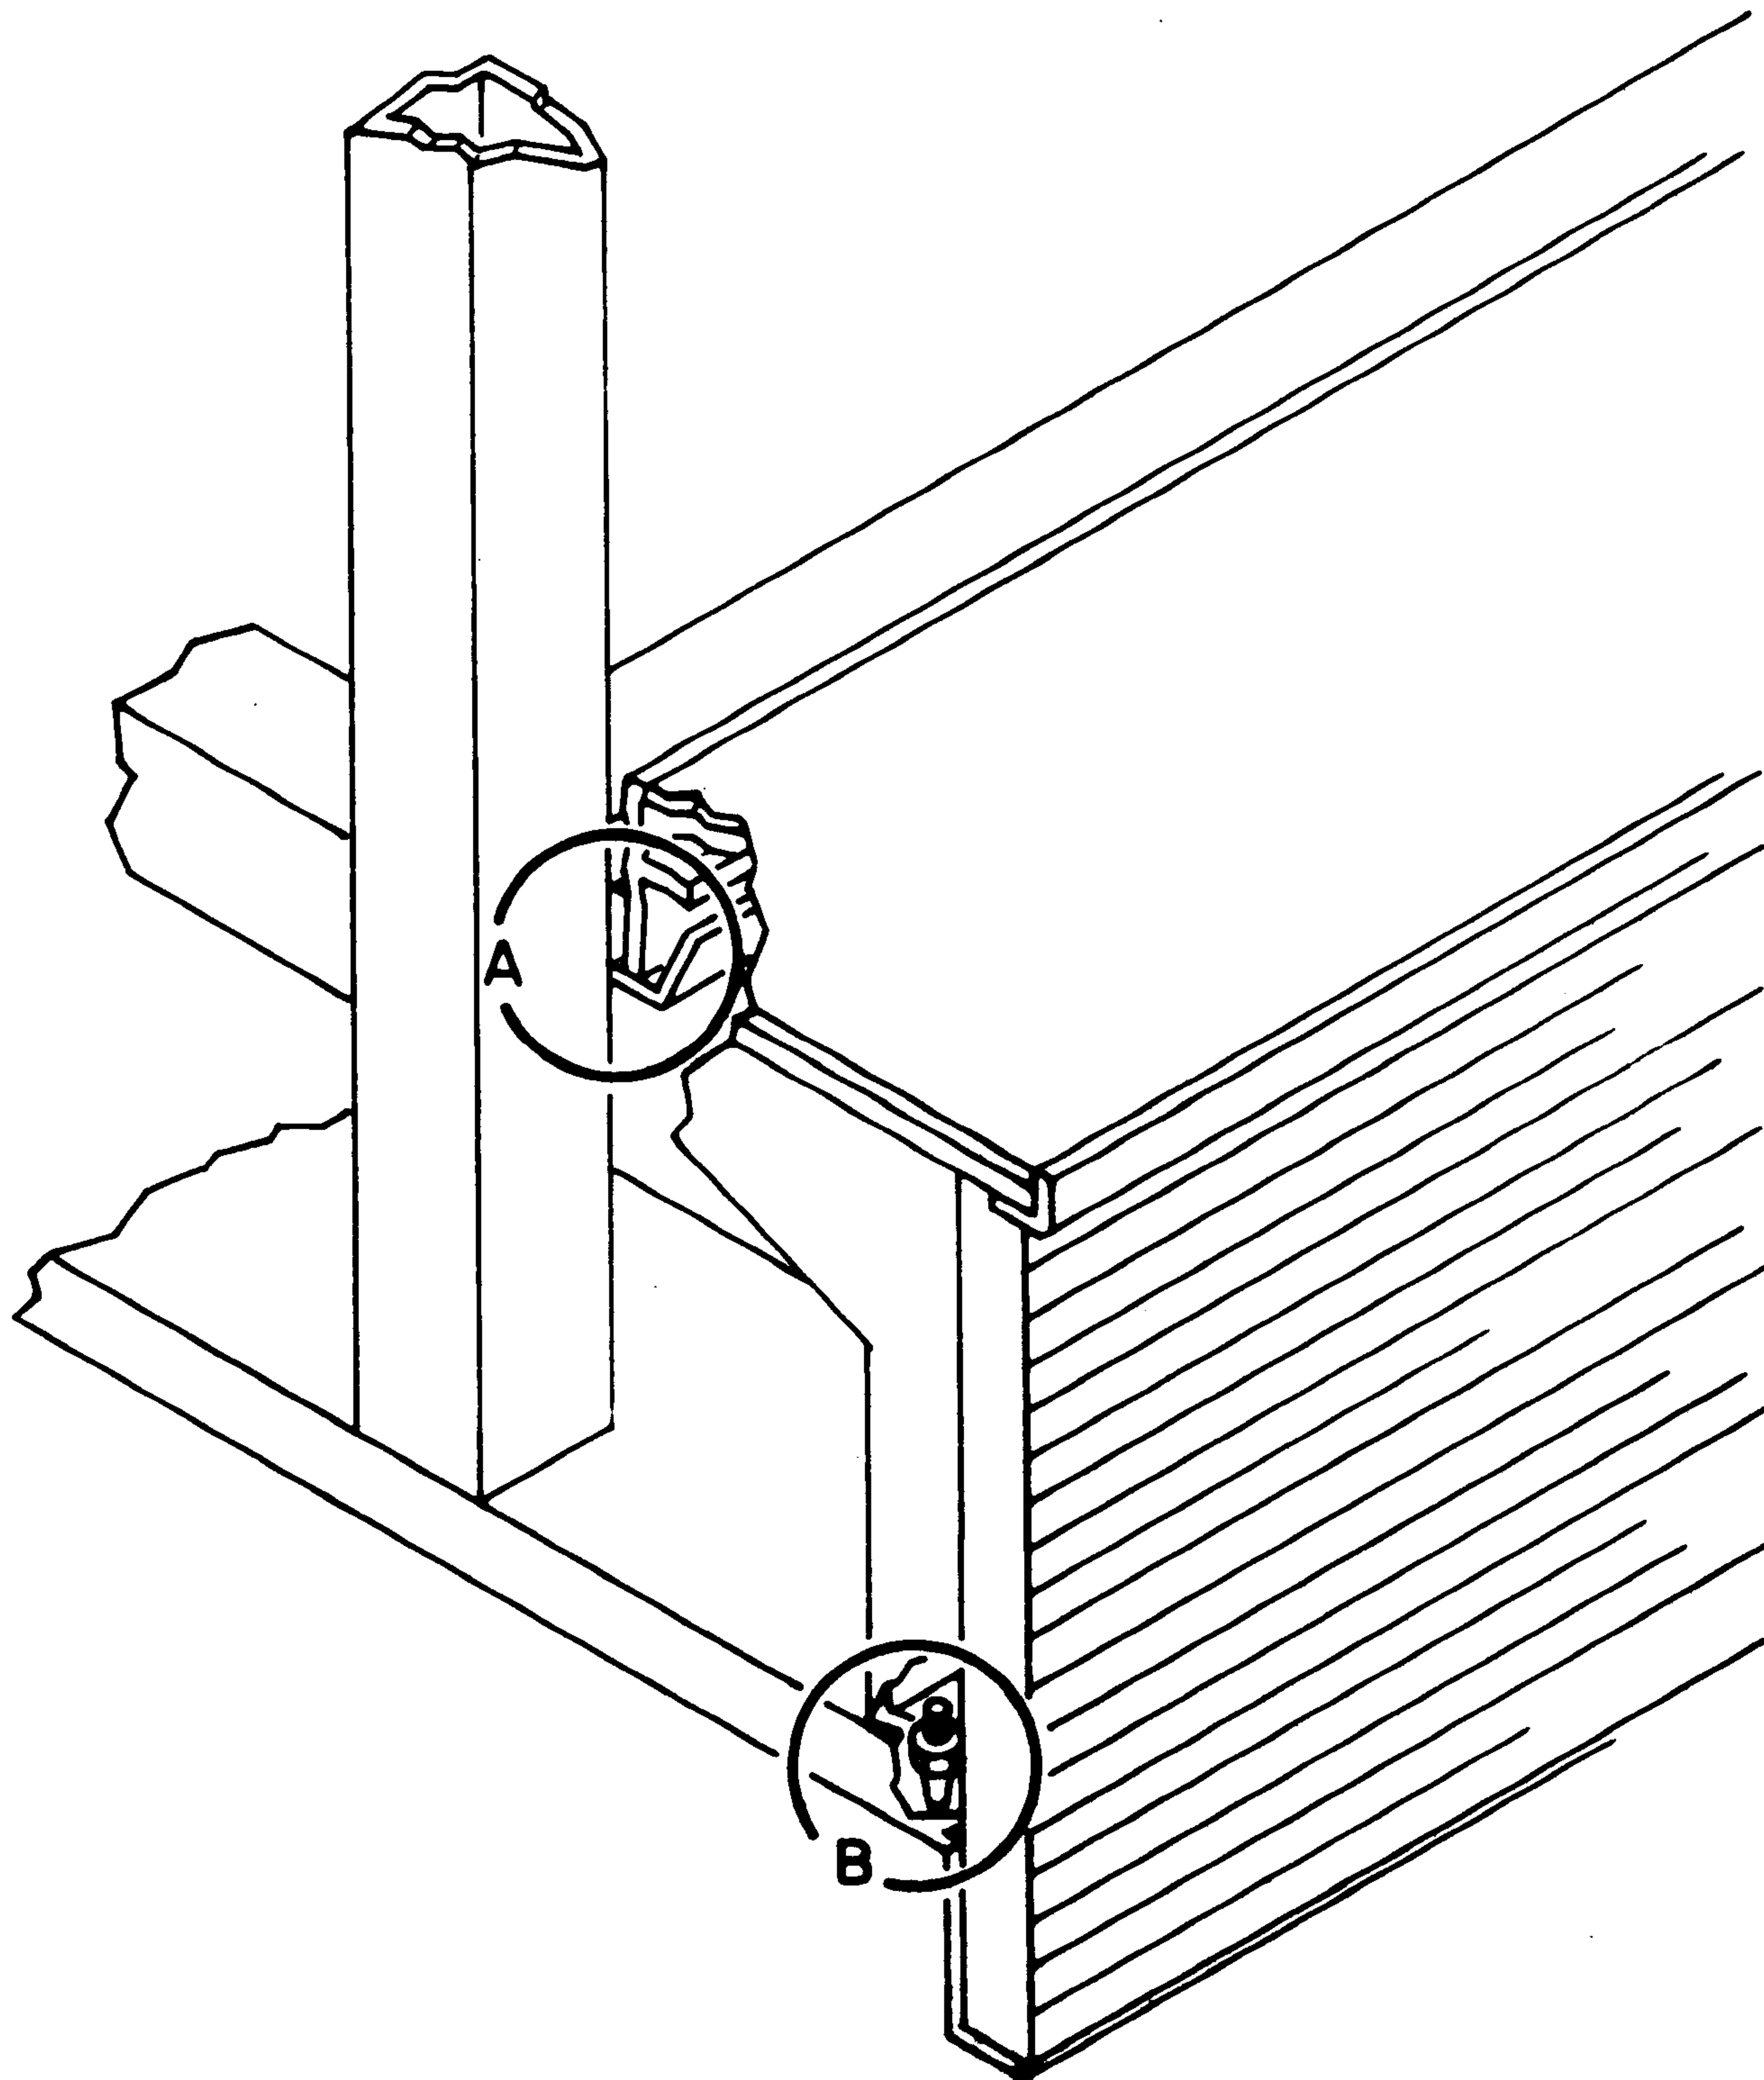
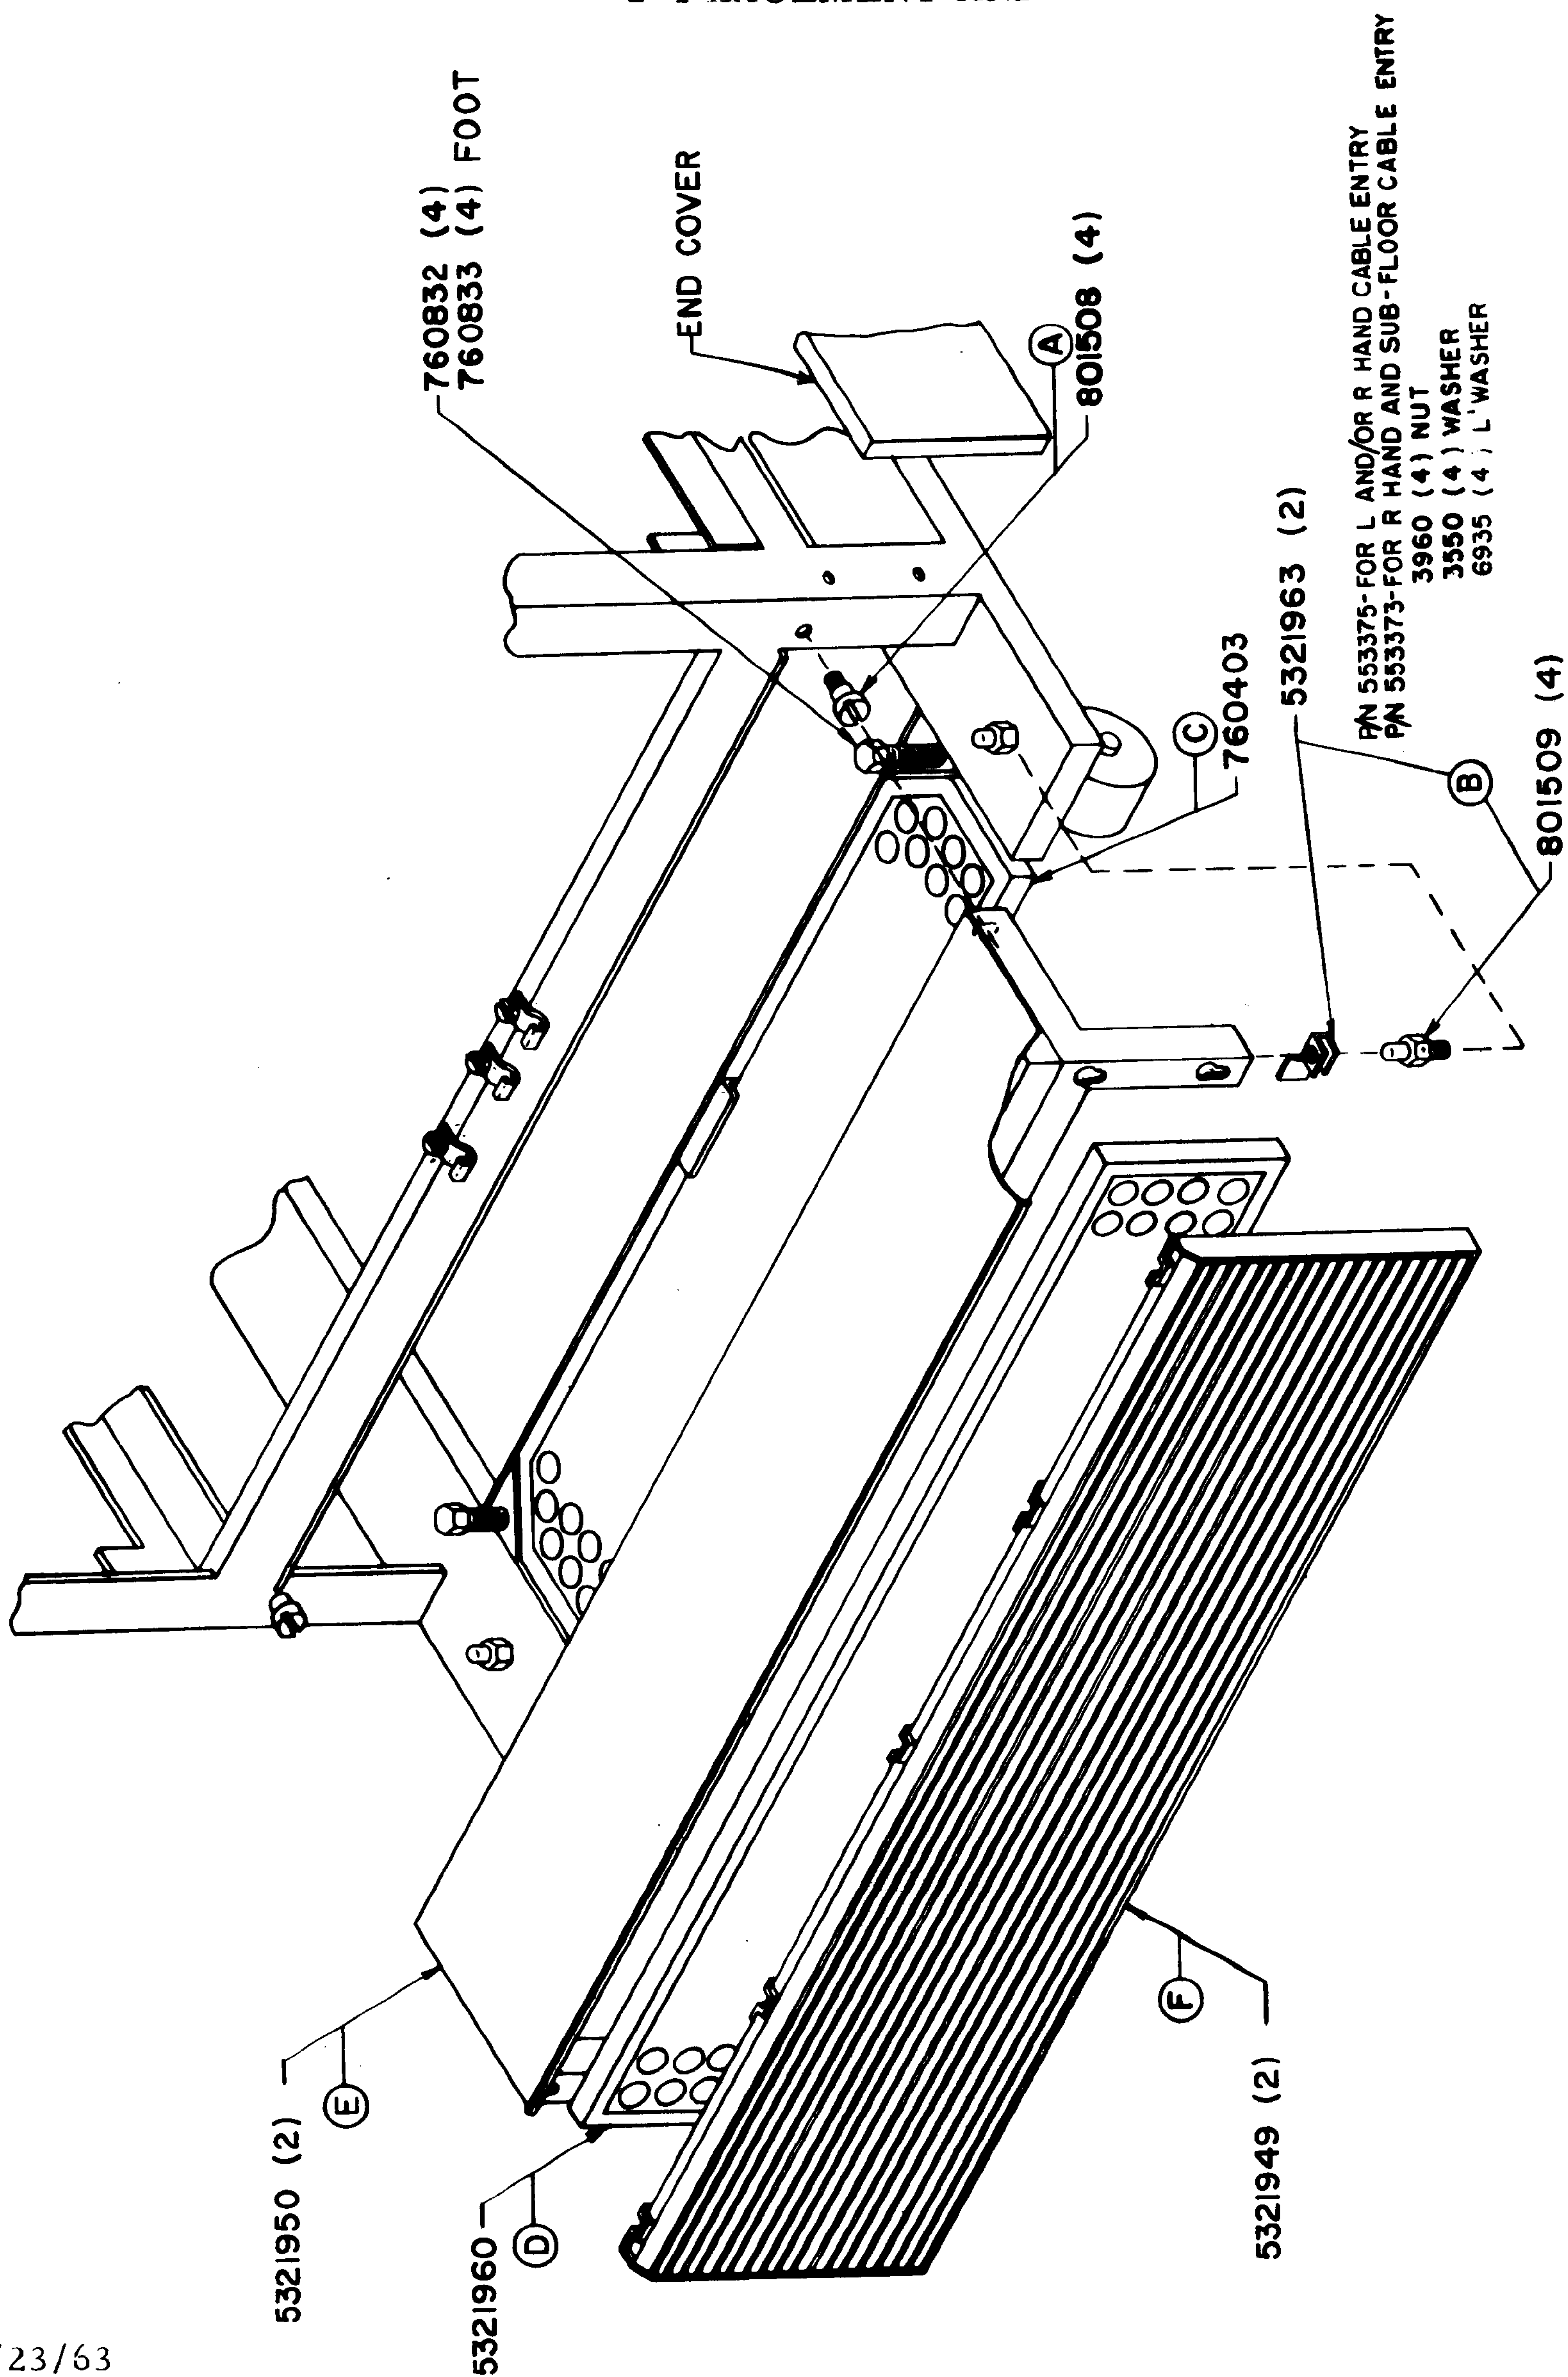

FIGURE 2-1 STEP COVERS - 7631
FIGURE 2-2 PLACEMENT OF BASE COVERS AND AIR FILTERS-7631
These covers are part of the Shipping Group. Step covers are installed after the cables are in position and connected. Figure 2-1 shows early model, one-piece step covers. Figure 2-2 shows step covers used on current models.
Special end covers with openings to allow entry and exit of cables are ordered for installations whose cables run at floor level. (See Figure 2-2).
- B. Install one-piece step covers as illustrated in Figure 2-1:
1. Place the top inside edge of the cover in the channel groove (A), mounted on the frame.
2. Set two pins (B) located at either side of the cover, into the locating holes on the frame.
C. Install two-piece step covers as illustrated in Figure 2-2: